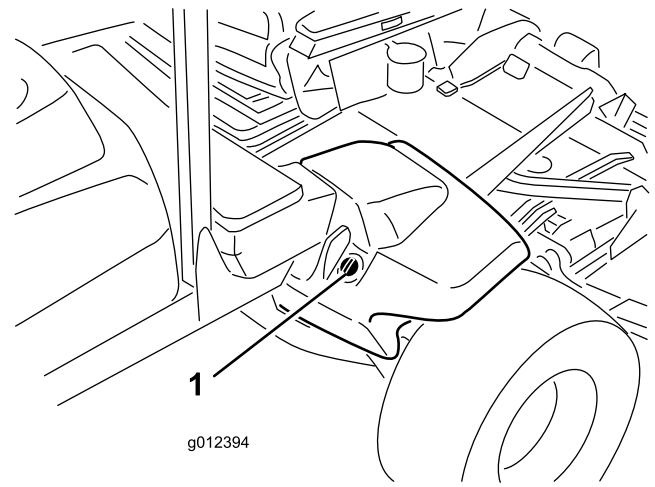

Figure 23
2. Clean the area around the filler neck and the cap of the hydraulic tank (Figure 23).